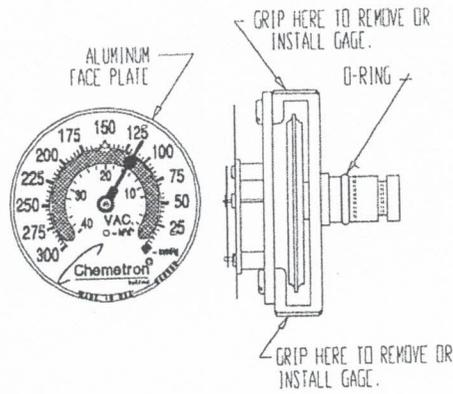

Figure 6
6.5.1 Check the gauge for proper function. Replace the gauge if necessary. To remove the gauge, remove the gauge screw on the back of the unit (See Figure 10). Grip the gauge by its frame and pull the gauge straight up and away from the base (See Figure 6). **Do not pull on the faceplate.** To replace the gauge, hold the gauge by its frame. Orient the gauge to read right side up when the unit is vertical. Push the gauge column into the gauge hole. Insert the gauge screw with its plastic washer in the back of the unit and tighten the screw. Reinstall the cover according to Section 6.1.